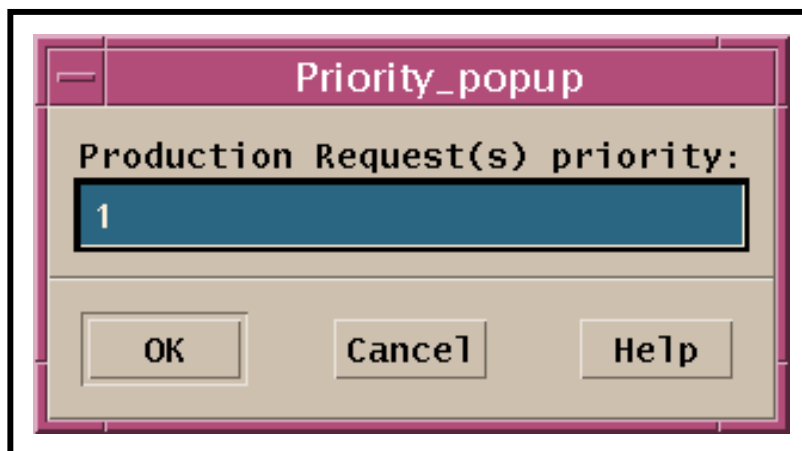

Figure 46. Priority Popup Window
- The **Priority popup** window (Figure 46) is displayed.